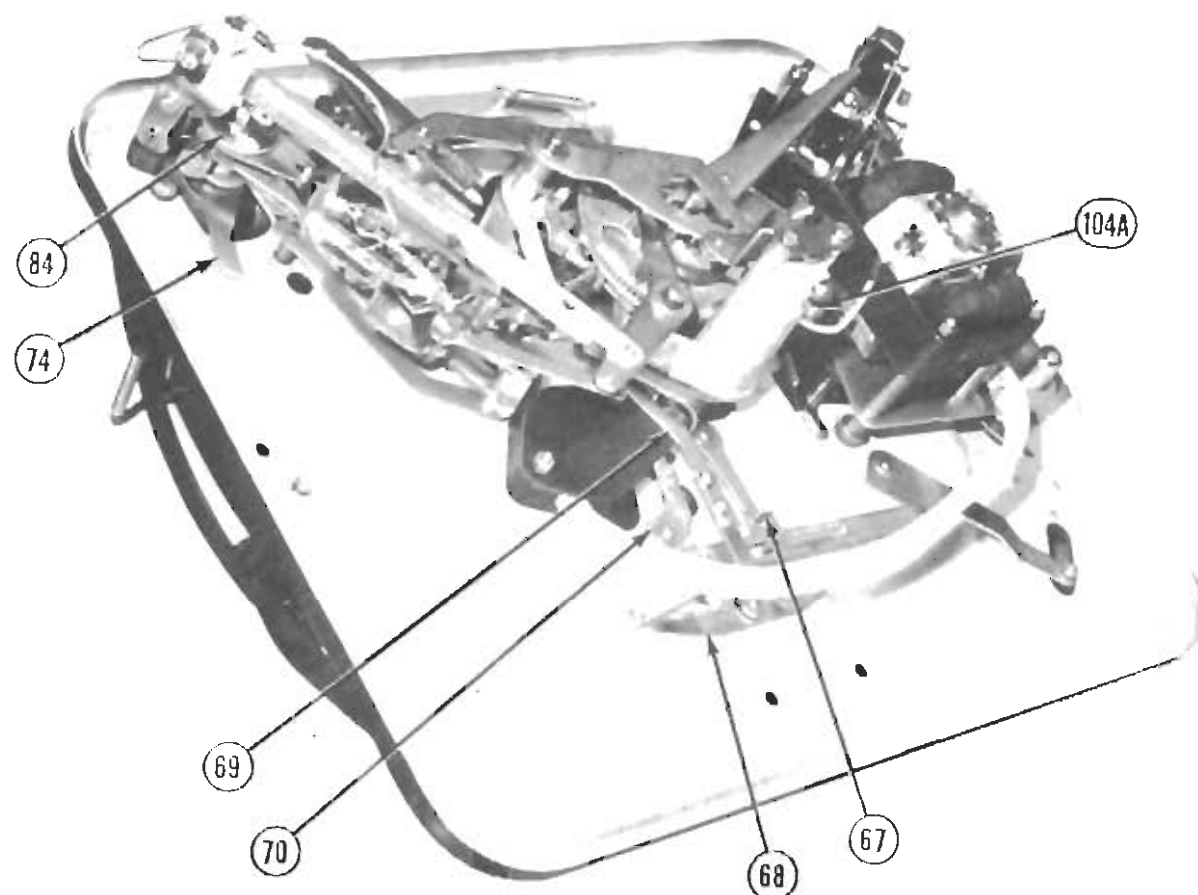

Figure 4
3. Pinion (97) may be binding:
(a) Remove the turntable and grip the pinion (97), lifting it up and down. If no movement is felt, loosen the two screws (104A), raise the pinion a very small amount, and retighten the screws (see Figure 4).